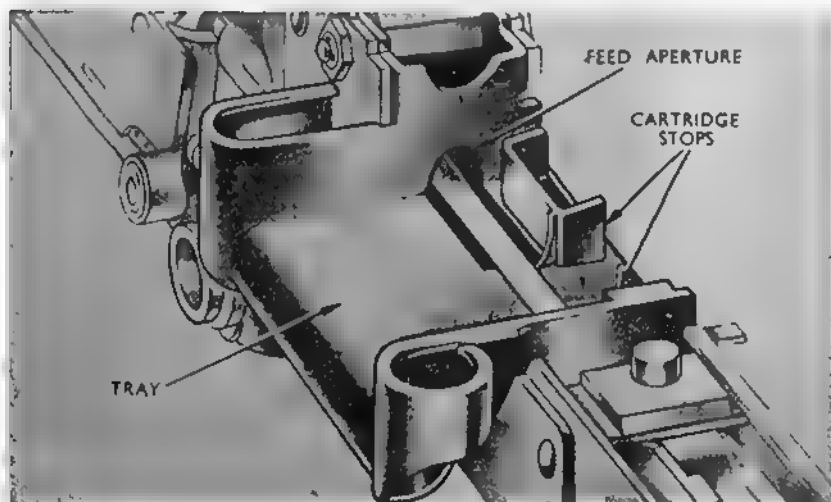

Fig. 10.—The feed tray
- e. *At the end of the sightsetting demonstration, point out the cartridge stop to the soldiers in preparation for the loading demonstration. (See Fig. 10.)*